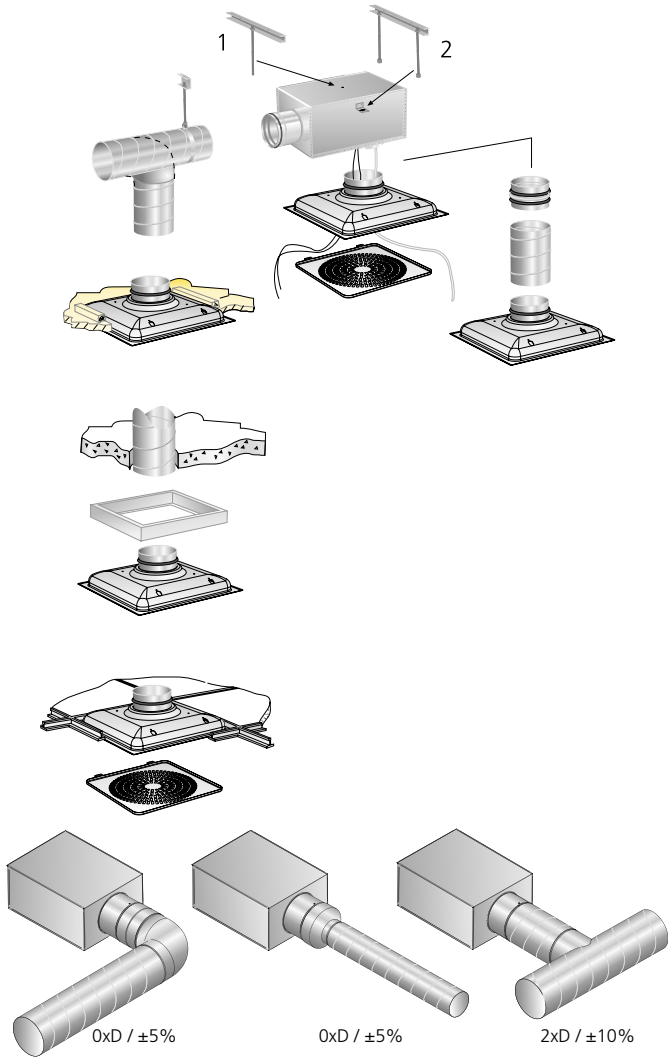

Figure 2. Installation options for the ALS commissioning box. See the REACT ALS product sheet for installation options with active commissioning box.
- The distance between the commissioning box and the air diffuser can be increased by as much as 500 mm without having to lengthen the measuring tubes and damper adjustment cords. See Figure 2.
- Measurement accuracy and straight section requirement before the commissioning box, see Figure 2.
- Figure 2 shows a bend, a change in dimension and T-piece.